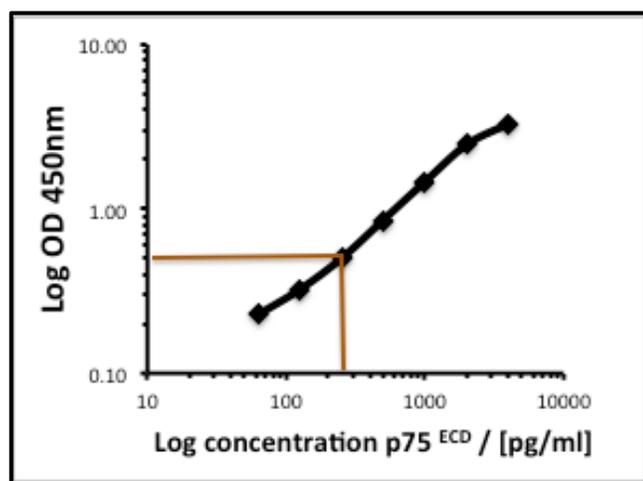

Figure 2: Human p75ECD standard curve
2. **Determine concentration of target protein in unknown sample.** The p75ECD protein concentration of the samples can be interpolated from the standard curve. Draw a horizontal line to intersect with the standard curve. A vertical line dropped from this point intersects the X-axis at the concentration of p75ECD in the unknown sample. In the exemplary standard curve in Figure 2, a sample with OD450 = 0.50 reads as 250 pg/mL p75ECD. If the samples measured were diluted, multiply the concentrations from interpolation (see step 1) with the dilution factor to obtain the actual p75ECD concentration in the sample.
In the example graph in Figure 2, recombinant human p75ECD standards were run in triplicates using the assay diluent provided in this kit. The TMB reaction was stopped after 10 minutes.